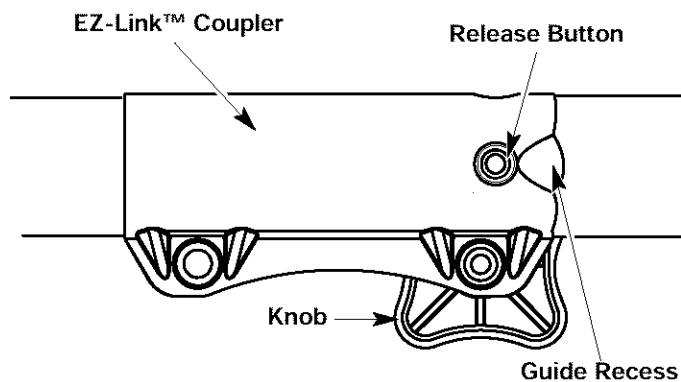

Fig. 14
1. Turn the knob counterclockwise to loosen (Fig. 14).
2. Press and hold the release button (Fig. 14).
1. Turn knob counterclockwise to loosen (Fig. 14).
NOTE: Aligning the release button with the guide recess will help installation (Fig. 14).